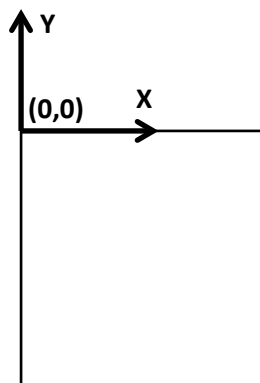

Figure 2: Coordinates for the CNC milling part.
**NOTE:** For the session on milling, the workpiece has to be oriented in Mastercam according to the layout shown in Figure 2 below. In other words, the top left corner of the workpiece will be at the origin of the Mastercam screen with all the Y coordinates being zero or negative.